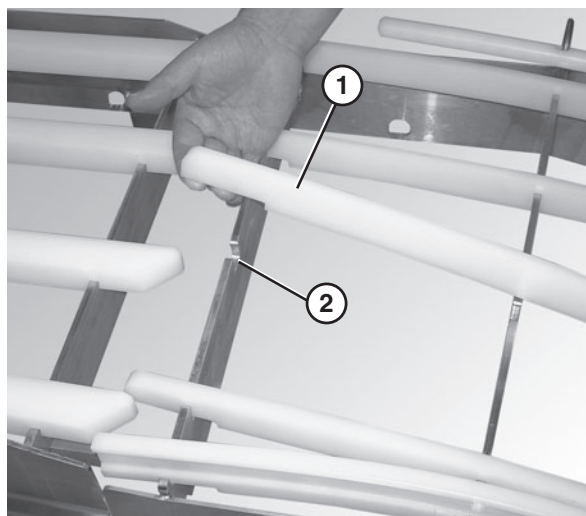

Figure 36
3. Insert the wear strips (**Figure 36, item 1**) into the appropriate slots in the frame (**Figure 36, item 2**), starting with the shortest wear strip on the inside of the curved section and working outward to the longest.